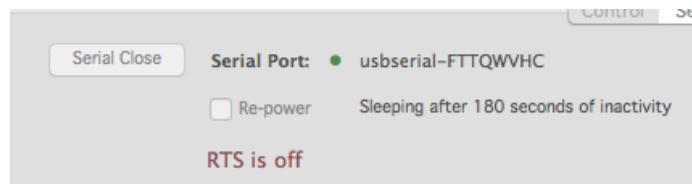

Figure 4: Instrument interface.
Once your instrument and computer are properly interfaced, you may start communicating with the instrument. Under **Preferences** (in the **Edit** menu for PCs, and in the **SAMI Client** menu for Macs) select the appropriate serial port. Click the **Serial Open** button to establish communication with your iSAMI. The indicator next to the **Serial Port** text will specify if your iSAMI is interfaced with your computer (Figure 4). A red dot indicates a closed serial port while a green dot indicates an open serial port.
The **Serial Open/Serial Close** button engages **SAMI\_Client** to communicate with your instrument. To establish communication, attach the communication cable to your computer and iSAMI, and power to 12 V supply or battery. In **Edit → Preferences** (PC), or **SAMI Client → Preferences** (Mac) select the appropriate serial port. Click the **Serial Open** button to begin communication with your iSAMI. The indicator next to the Serial Port text will specify if your iSAMI is interfaced with your computer. A red dot indicates a closed serial port while a green dot indicates an open serial port (Figures 4 and 6).